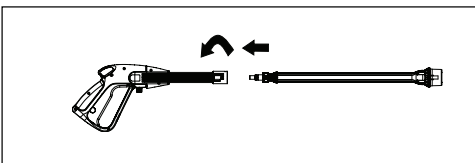

Figure 8
1. Insert quick connect lance into gun and turn clockwise to positive stop as shown in Figure 8.